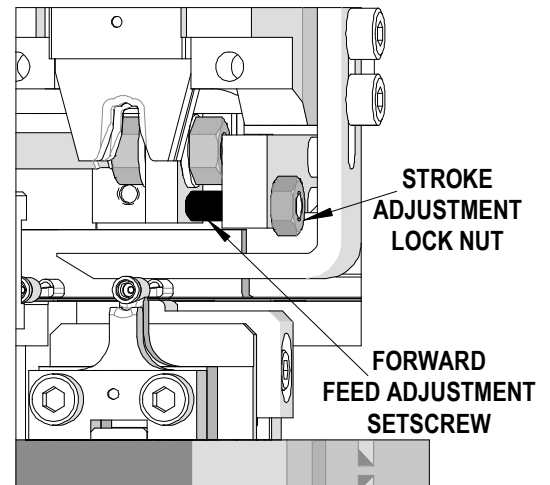

Figure 2-24
- Using a 2mm hex wrench, adjust the forward feed position setscrew. Turning the wrench clockwise will reduce the feed stroke; counterclockwise increases the stroke. See Figure 2-24. When reducing the feed stroke, pull the tape backwards to keep the tape index holes against the feed pawls. If (forward) air pressure is on the feed cylinder, the feed assembly should follow the adjustment.